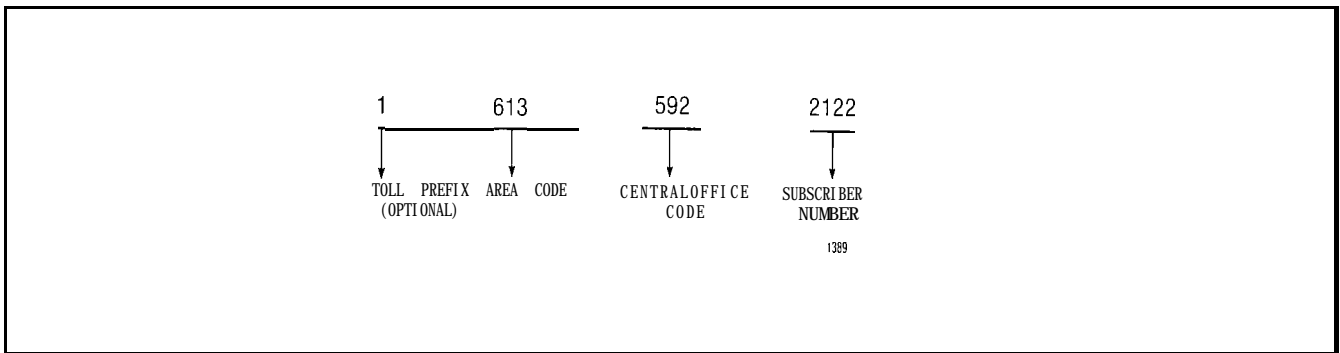

Fig. 5-1 North American Numbering Plan
5.01 Almost every subscriber in the North American telephone system may access any other subscriber by dialing a maximum of ten or eleven digits. These digits consist of an optional toll prefix number (usually 1) three digit area code, a three digit Central Office code and a four digit subscriber number (Fig. 5-1).